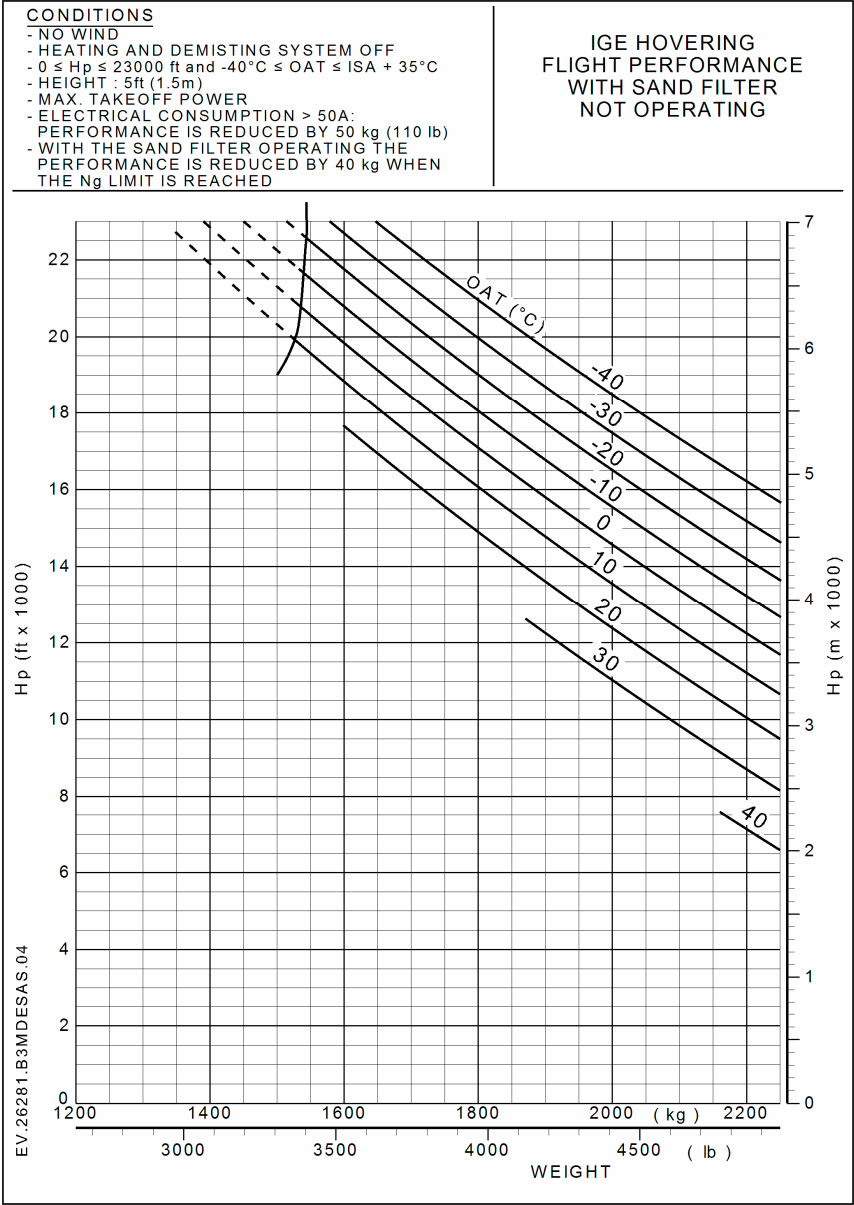

Figure 2
- Refer to Figure 2 to Figure 5.